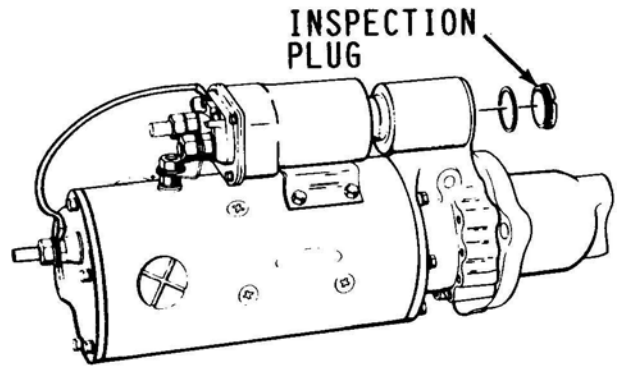

Figure 2-7. Access to Shift Lever Adjust Nut
- 8) **Shift Lever.** Remove the inspection plug for access to shift lever adjusting nut (fig. 2-7) if looseness is indicated.